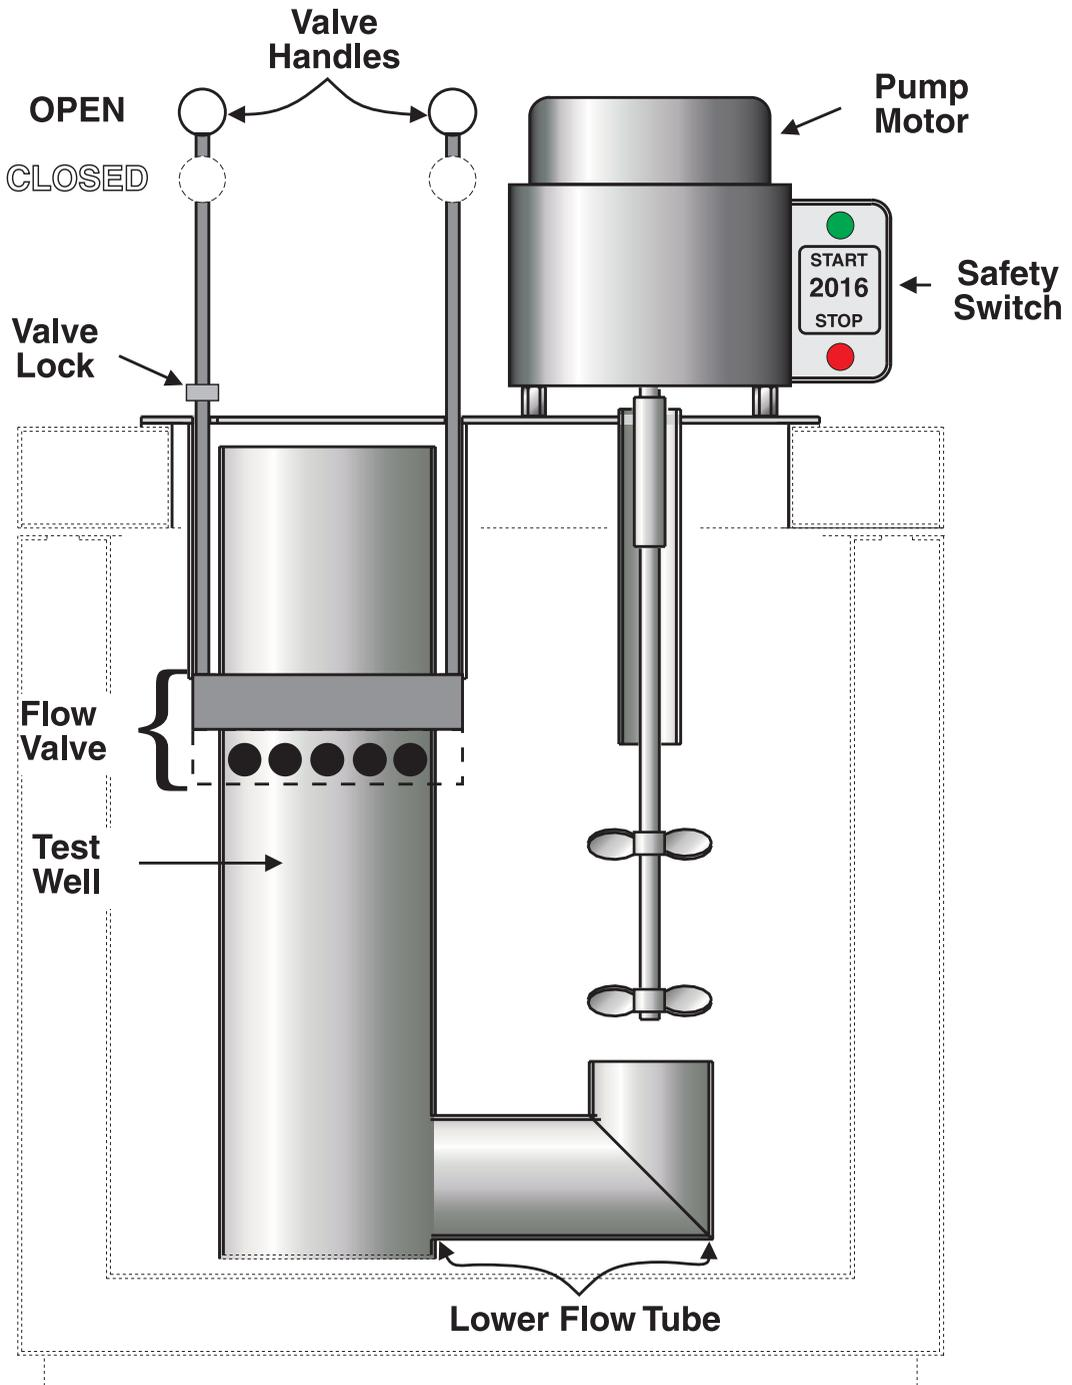

Figure 1 Typical 2016 installation in a bath
The fluid level adapter assembly is shown in Figure 1 on page 15.
- **Pump Motor:** Provides the pumping power to maintain a constant flow of bath fluid into the test well. It also provides stirring for the bath during operation of the fluid level adapter. (See Figure 1 on page 15.)
6. Ensure the Flow Valve is OPEN. Open the Flow Valve (see Figure 1 on page 15) by raising the valve handles to the highest position.
4. Ensure that the Fluid Level Adapter is dry and free of any contaminants. Ensure that no fluid is trapped in the Lower Flow Tube (see Figure 1) and that the inside of the Lower Flow Tube is dry.
5. Ensure the Fluid Level Adapter is dry, clean and free of contaminants. Ensure that nothing is trapped in the Lower Flow Tube (see Figure 1).